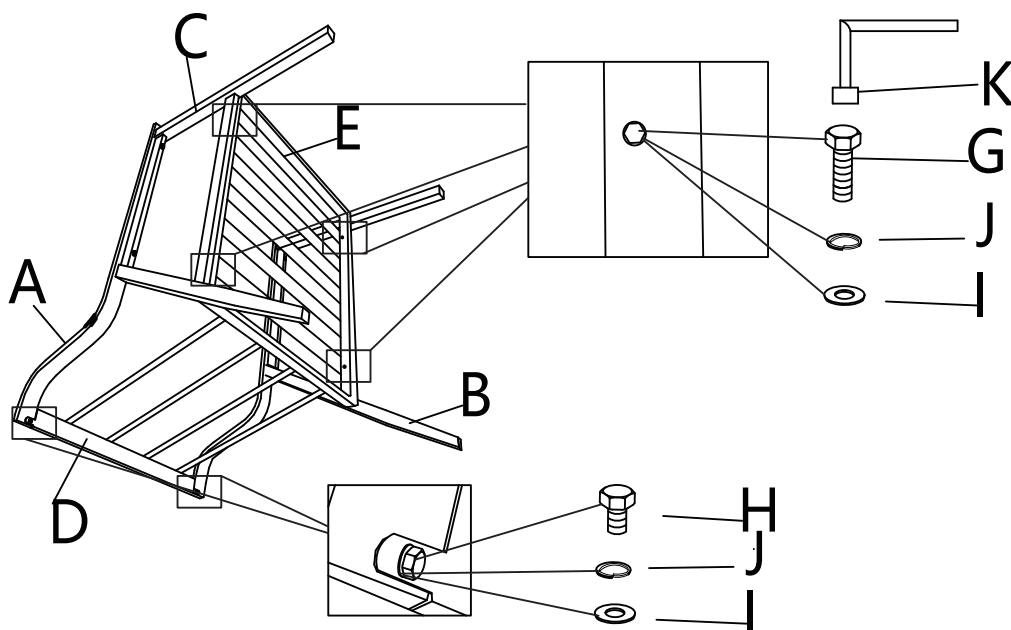

Figure 3
- 3 Align the arm and leg assembled in step 1 to the back panel and seat panel assembled in step 2. Secure the arm to the back panel with M6\*15 bolt (H) M6 lock washer (J) and M6 washers (I), then the leg to the seat panel with M6\*25 bolt (G), M6 lock washer (J) and M6 washers (I). See figure 3.